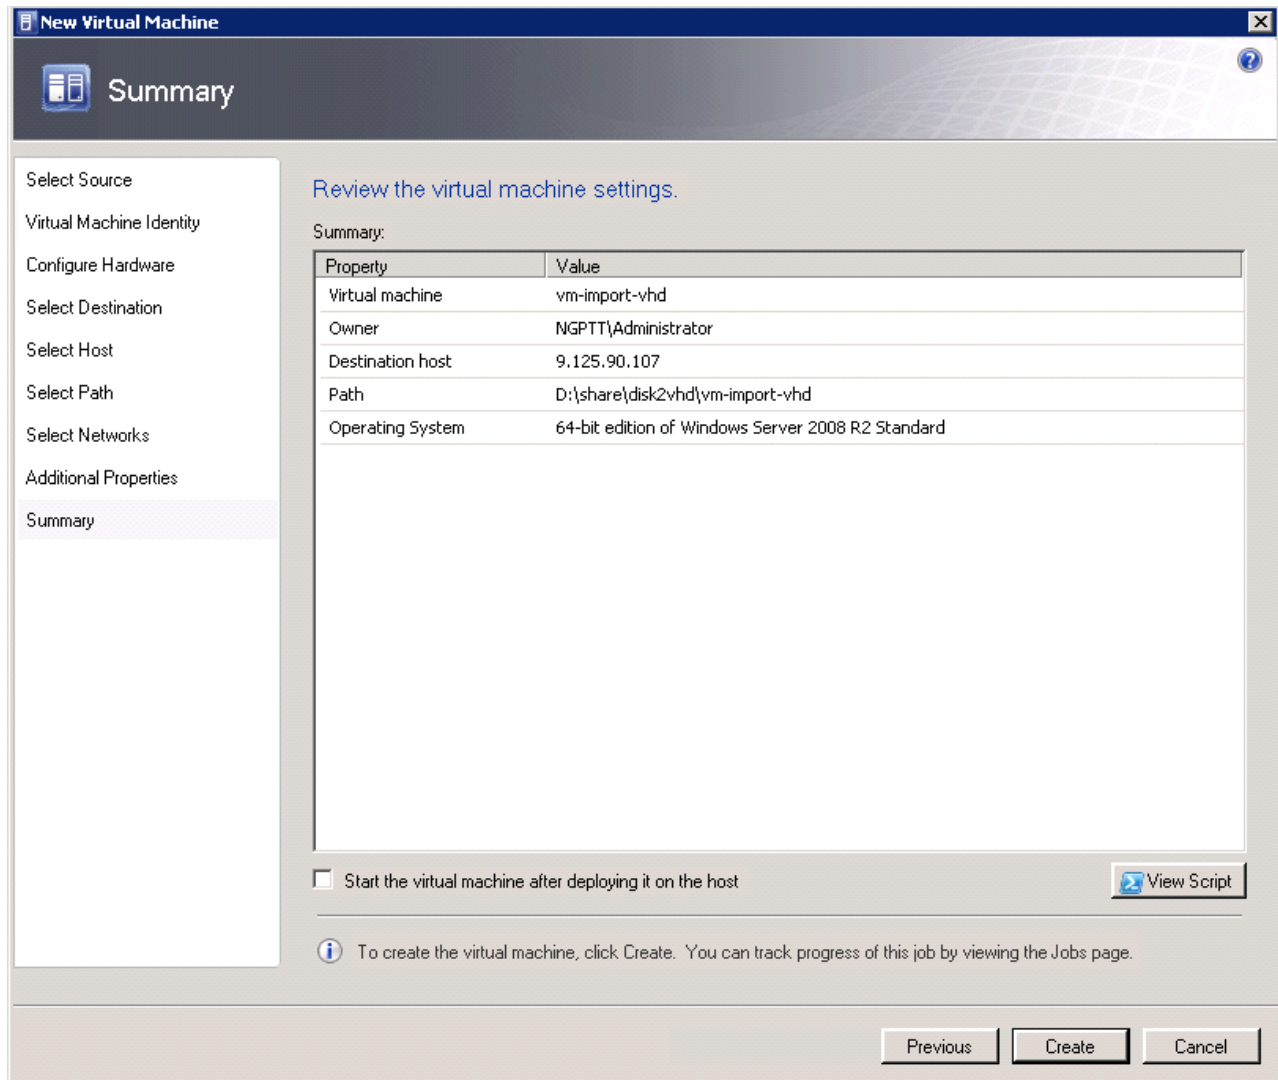

Figure 3-21 New Virtual Machine wizard: Summary
17. In the Summary window, review the summary information, as shown in Figure 3-21. Click **Create**.